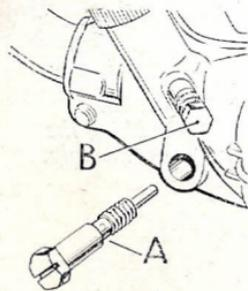

FIG. 11.
**Throttle Cable:**—Adjustment should be such that when the throttle is closed there is a trace of slackness in the cable. The engine should still run slowly, but if not, screw the adjuster (*B*) Fig. 11, in or out by a quarter of a turn at a time, until this condition is achieved. This may require further cable readjustment.
**Carburetter Jet:**—The jet (A) Fig. 11, is readily accessible for cleaning in the event of blockage and consequent fuel starvation, and its removal does not necessitate dismantling the carburetter. Unscrew the jet with a suitable spanner and blow through the orifice until it is certain that it is clear of any obstruction. Make sure that the obstruction has not been transferred to the smaller side holes. Do not use any sharp implement for cleaning purposes and do not over-tighten when replacing.